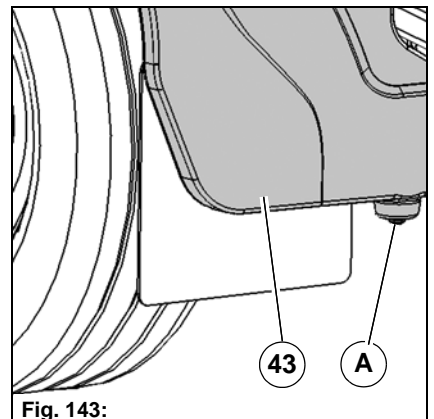

Fig. 143:
2. Unscrew the drain screws **Fig. 143-A** on both sides of the fresh water tank **Fig. 143-43** and empty the tank. Use a new seal when screwing in.